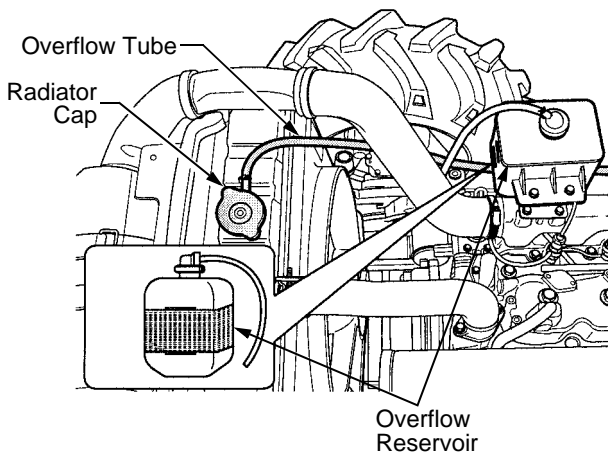

Figure 65
Check the coolant level in the overflow reservoir before each use. See Figure 65.
- Locate the radiator cap beneath the access door at the forward end of the hood. Turn the radiator cap counterclockwise to the first stop to release any pressure. Refer to Figure 65.